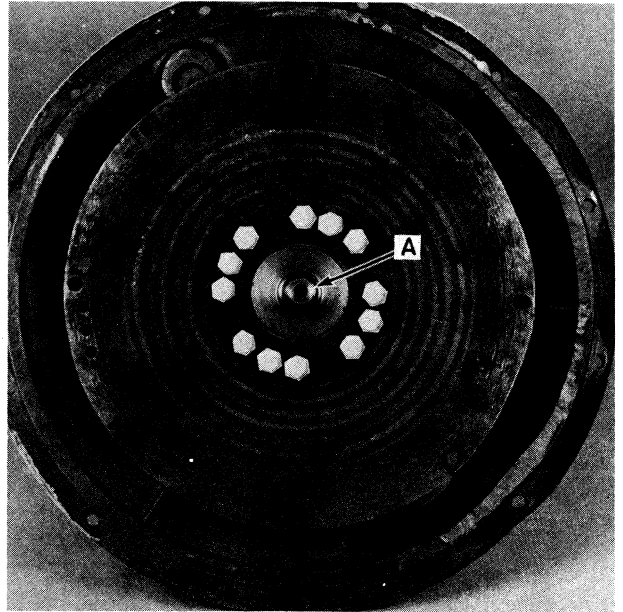

FIGURE 5A-7
12. Remove cover, E, Figure 5A-5. Remove the eight cap screws, A, Figure 5A-6, that are located under this cover.